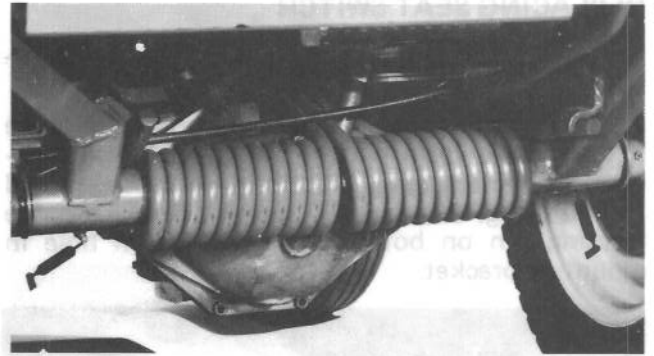

Figure 28
1. The traction unit bearings and bushings that must be lubricated are: PTO shaft and yokes (Fig. 26); lift arm pivots (Fig. 27); right and left push arm ball joints (Fig. 26); push arm pivot bushings (Fig. 28); PTO pivot housing blocks (Fig. 29); brake pivot bushings (Fig. 30) rear wheel spindle bushings (Fig. 31); steering plate bushings (Fig. 31); axle pin bushing (Fig. 31); steering cylinder (2) (Fig. 31); and engine output shaft bearing (Fig. 32). Also apply grease to both brake cables at the drive wheel and brake pedal ends.